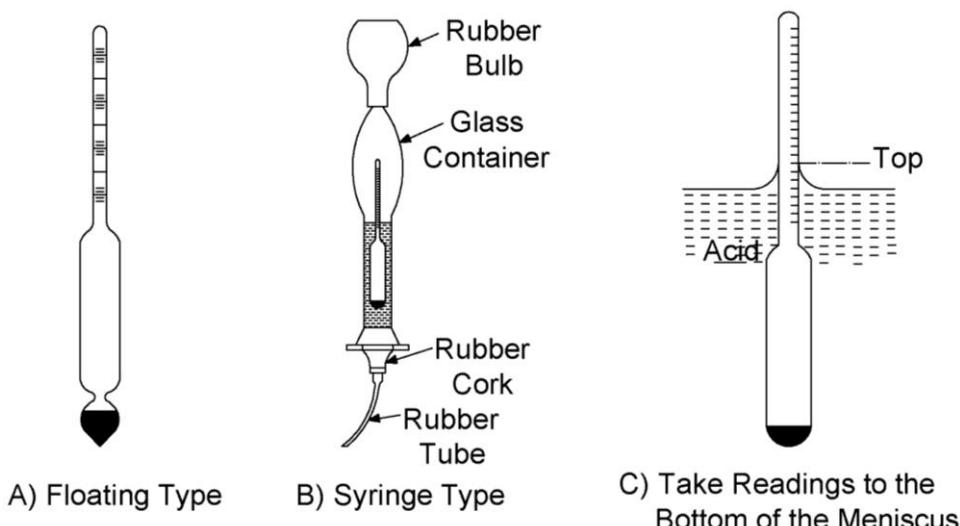

Fig: 1.4 HYDROMETER
- (a) The floating hydrometer, (Fig. 1.4.a), used with open type cells. It consists of a glass tube with a calibrated scale and a weighted bulb at the lower end. It is placed in the electrolyte of the cell, and sinks more or less into the solution depending on the specific gravity, which is read directly from the scale.
- (b) The syringe hydrometer, (Fig. 1.4. b), used with enclosed type cells, and also with open type cells where the separation between plates is small. The hydrometer float is contained in the enlarged portion of a glass cylinder, which has a rubber tube at the bottom and a rubber bulb at the top by means of which acid is sucked in it from the cell under test. After the reading is taken, the acid is restored to the cell.
When taking hydrometer readings, the electrolyte clings to the stem of the hydrometer at the surface. This is called the meniscus. To avoid errors, always read to the bottom of the meniscus (Fig.1.4. c).